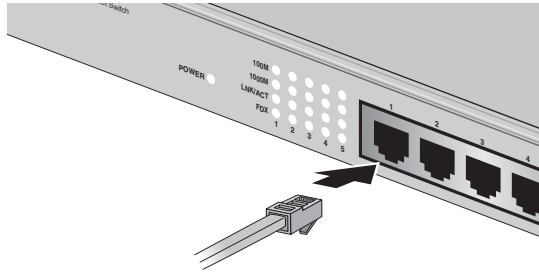

Figure 8 Connecting the Twisted Pair Data Cables
1. Connect the twisted pair data cables to the RJ-45 ports on the switch, as illustrated in Figure 8.